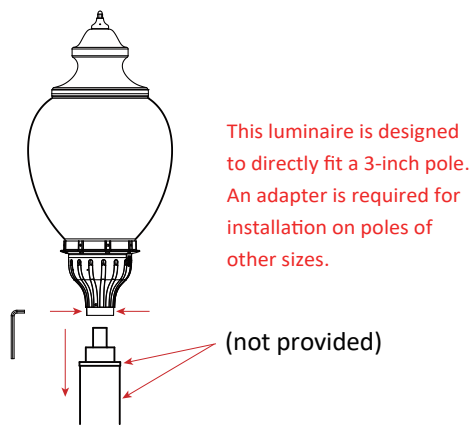

Fig. 3
1. Slide the base of the fixture over the top of the pole and secure it with screws. See Fig. 3.